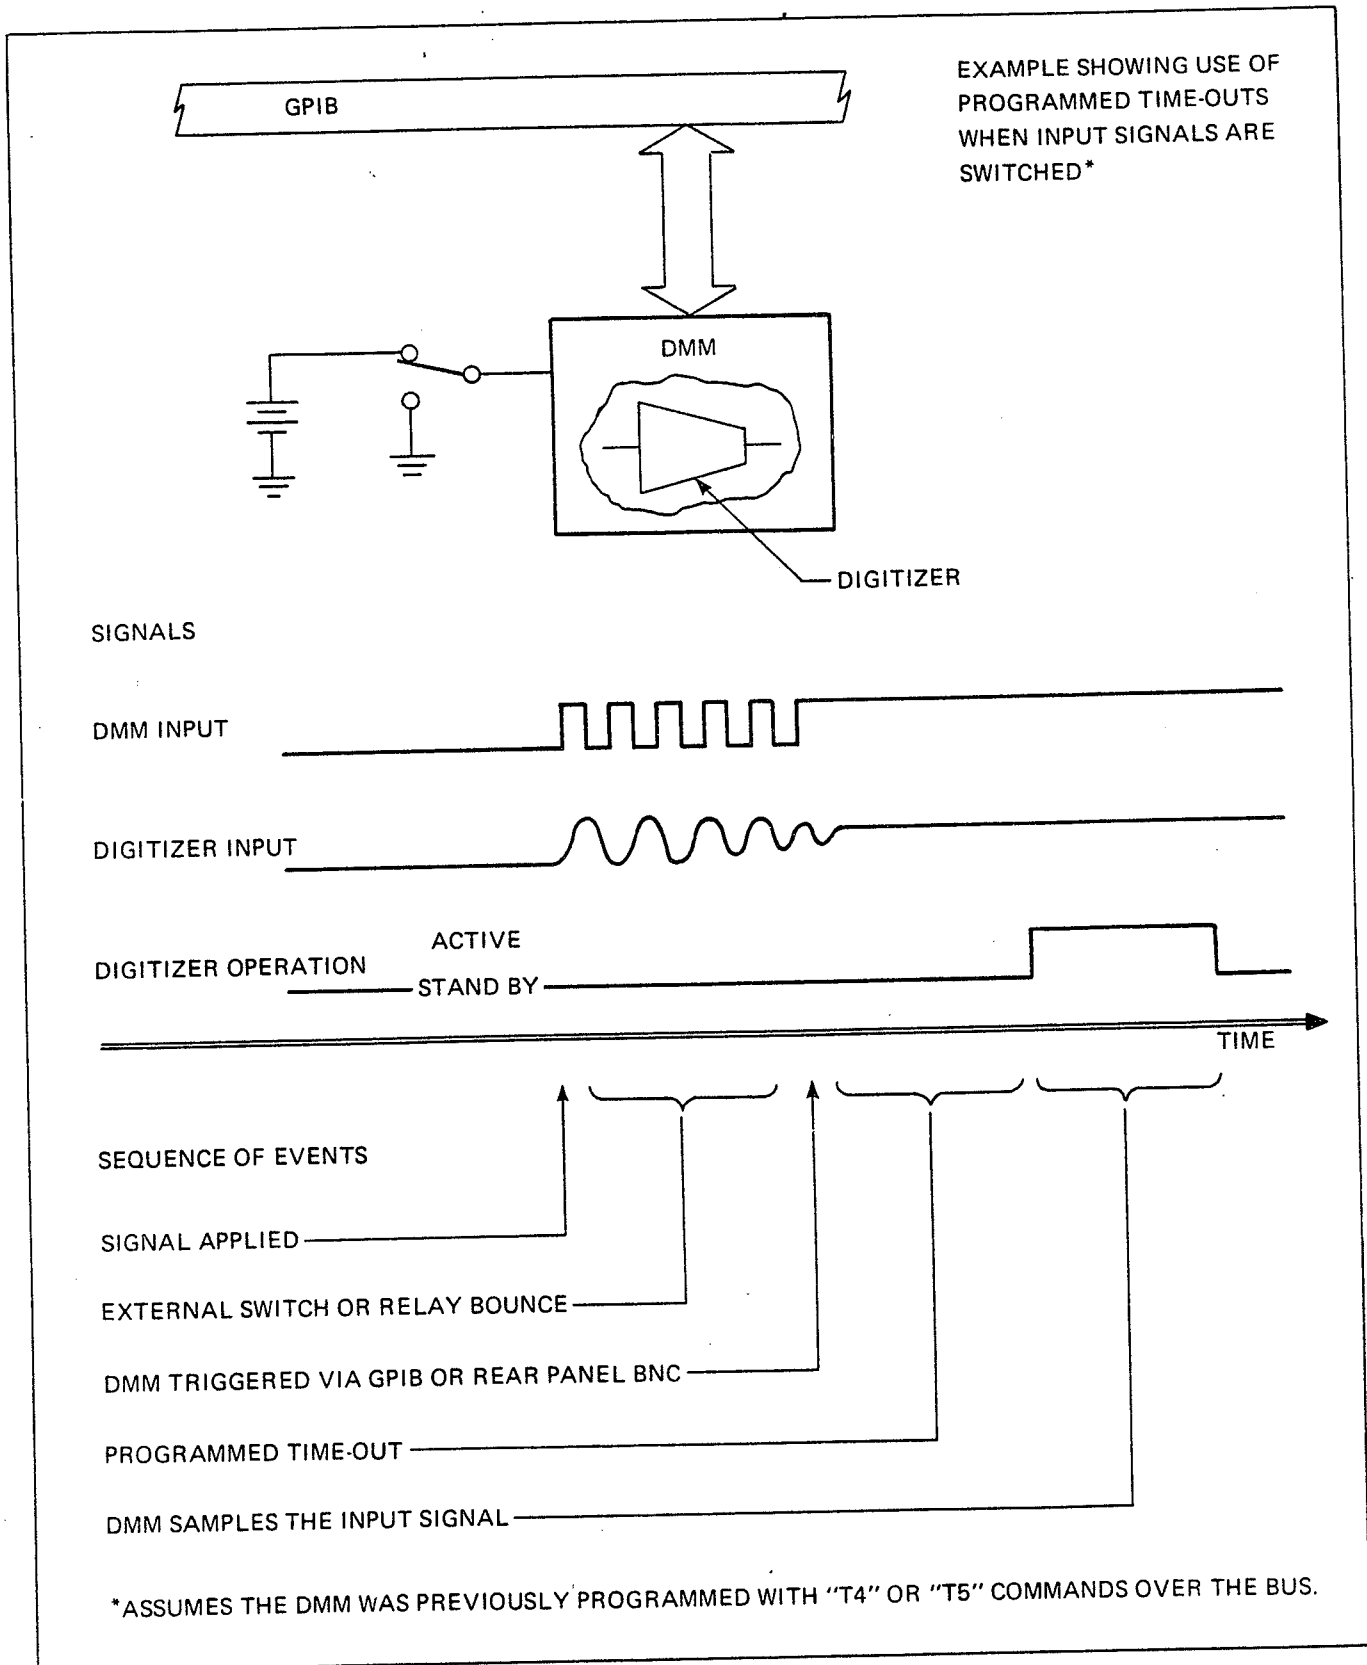
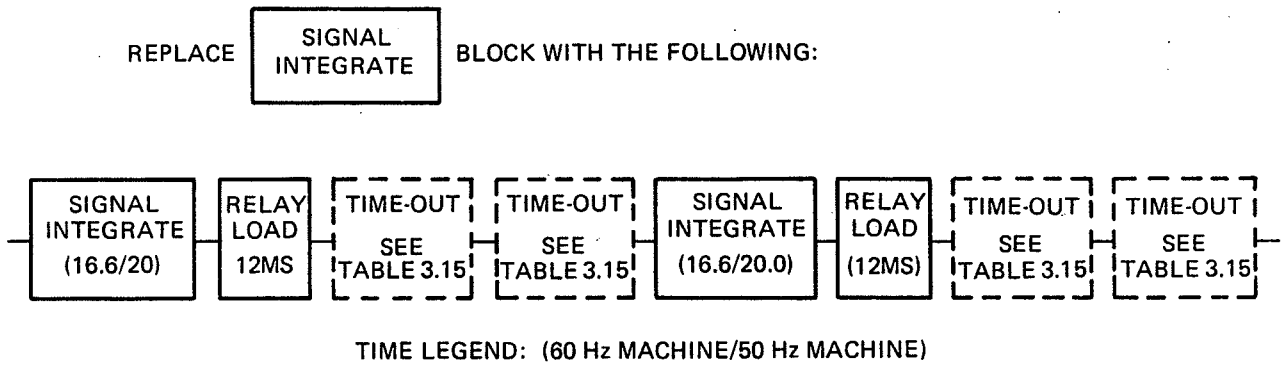

Figure 3.24 - DMM Programmed Time-Out
Figure 3.26 - 4 1/2 Digit Software Ratio Throughput Calculation
3.5.29.4 When in Software Ratio mode, the time to complete a reading can be calculated from Figure 3.25 or Figure 3.26, which, along with the GPIB throughput calculations in paragraph 3.7, supply the necessary information to calculate the time required to program, trigger, and transfer a reading back to the controller.
Figure 3.24 shows this sequence and also shows how the use of programmed time-outs (T4 and T5 commands) allow the programmer to pass the responsibility for settling time over to the DMM. Here again it is assumed that the input signal has already settled before the DMM is triggered, since it
3.7.3 The time necessary to PROGRAM, TRIGGER and OUTPUT a reading from the DMM is presented in Figure 3.25 and Figure 3.26. The Figure 3.25 is used when in the 5 1/2 digit mode or when in the 4 1/2 digit mode and the DMM is being programmed to the 5 1/2 digit mode. Figure 3.24 is used when the DMM is in the 4 1/2 digit mode or when the DMM is being programmed from 5 1/2 to 4 1/2 digit mode. Notice that the times shown do not include the actual bus time necessary to transfer data to or from the DMM, but this time can be estimated using Table 3.16. The throughput equations shown in the preceding 2 figures are based upon the assumption that the DMM is in 'HOLD' and is waiting to be triggered or re-programmed. This assumption is made because when not in hold, delays become much more difficult to estimate due to the random timing between incoming GPIB commands and readings already in progress. Since this section is an aid to computing the time required to obtain a reading, it is also assumed that each program string contains a DMM trigger such as the "T0" command, or is followed closely by a GET (Group Execute Trigger). This accounts for the 2 figures showing a Signal Integrate delay and also showing a reading being output to the GPIB.